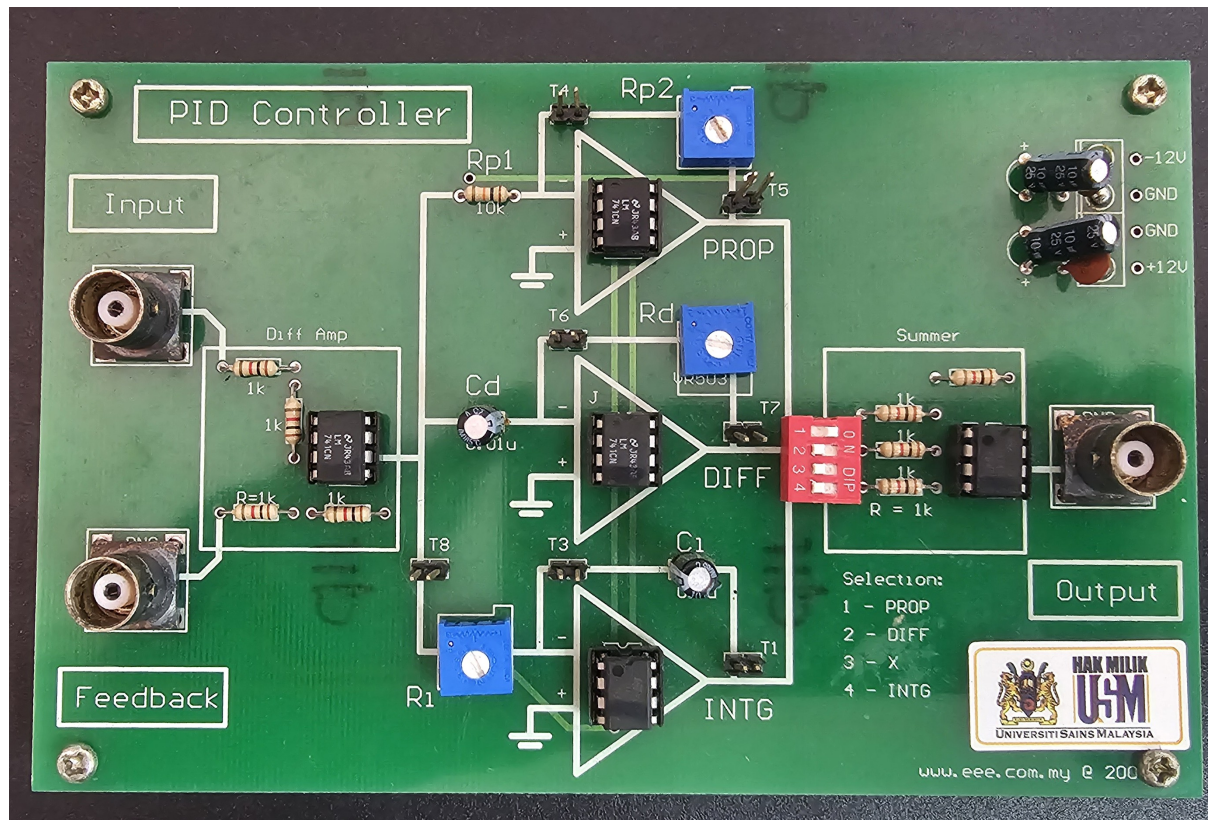

Figure 1.2: PID Control module.
1. Select the P-controller by setting PROP on the controller (DIP switch 1) to ON (refer to Figure 1.2).